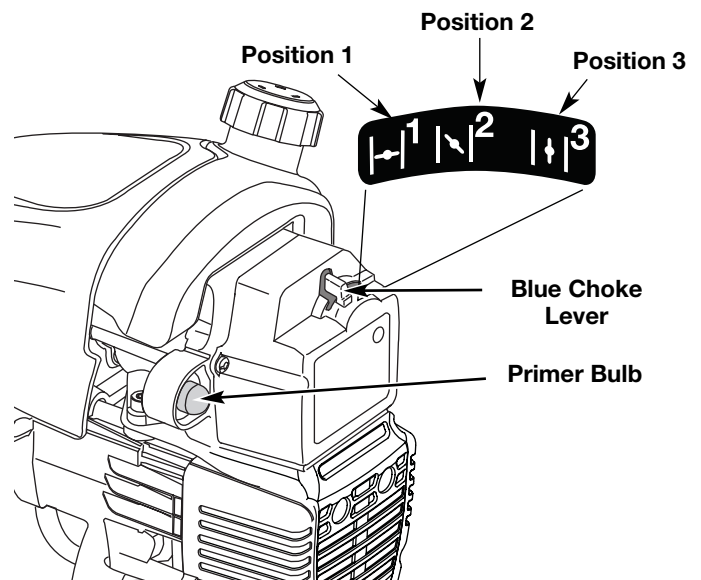

Fig. 16
3. Fully press and release the primer bulb 10 times, slowly. Some amount of gas should be visible in the primer bulb and gas lines (Fig. 16). If you can't see gas in the bulb, press and release the bulb as many times as it takes before you can see gas in it.
4. Place the blue choke lever in **Position 1** (Fig. 16).
6. Place the blue choke lever in **Position 2** (Fig. 16).
10. Place the blue choke lever in **Position 3** (Fig. 16). The unit is ready for use.